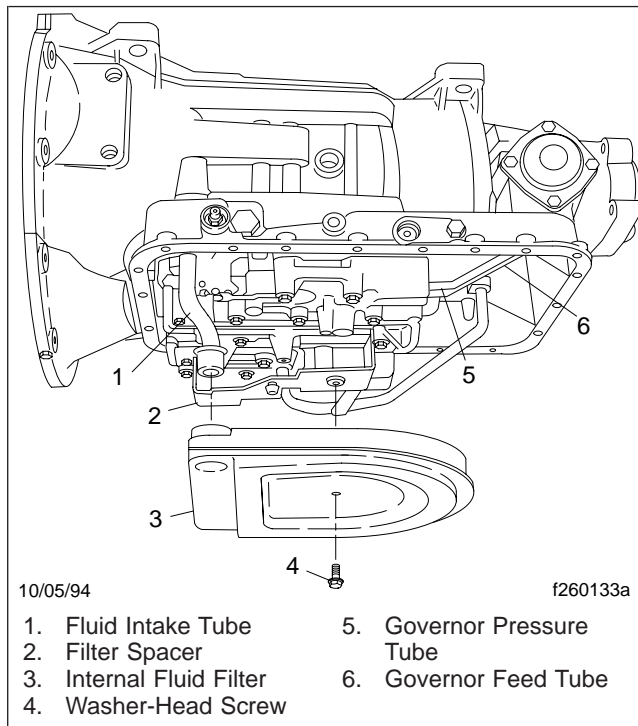

Fig. 3, Allison AT Series Transmission Filter
6. Remove the washer-head screw that attaches the internal fluid filter to the filter spacer, then remove the filter and discard it. See **Fig. 3**. Remove the fluid intake tube, then remove the seal ring from the intake tube, and discard the seal ring.